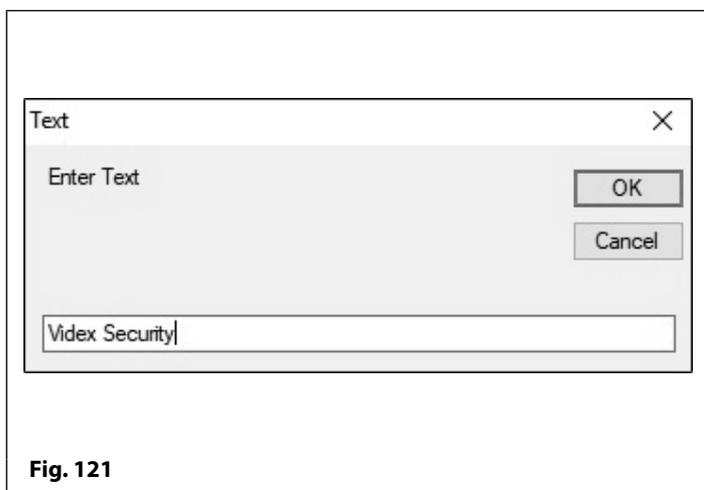

Fig. 121
- Once the desired position has been located click the left mouse button and the text window will appear, as shown in **Fig.121**;